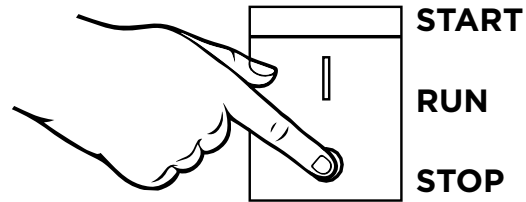

Figure 14 - Move engine switch to STOP
3. Position the engine control switch to **STOP** or if you plan to store the generator after use, turn the fuel shutoff valve to the **OFF** position and allow the fuel to be consumed from the carburetor (see Figure 14).